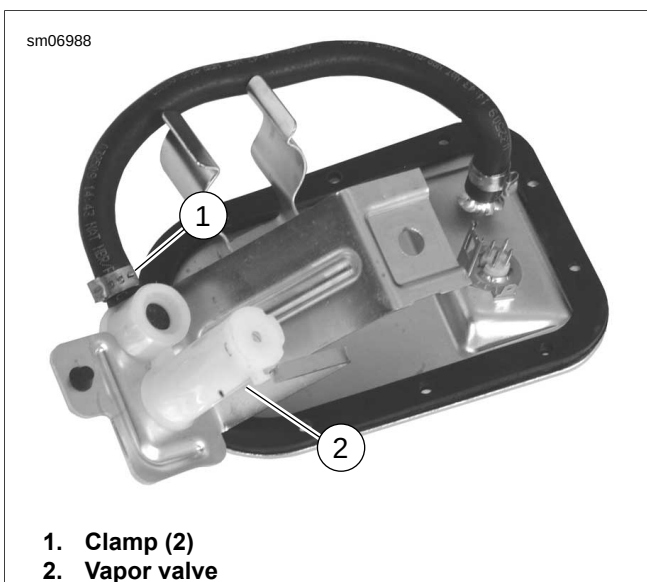

Figure 4-39. Vapor Valve
3. See Figure 4-39. Cut clamp (1) and remove hose from vapor valve (2).